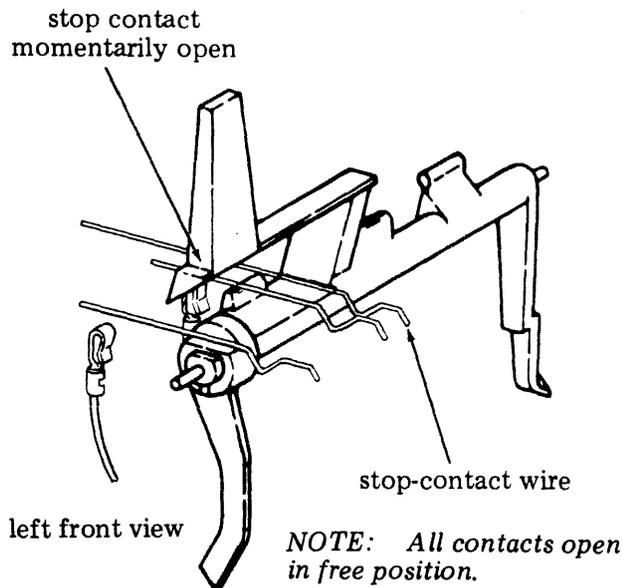

Figure 19 - Stop Position and Free Position
G. Stop Position (Figure 19)
H. Free Position (Figure 19)